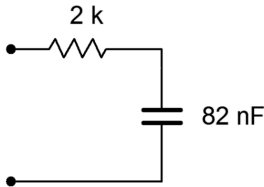

Figure 2.1
- 1. Determine the impedance of the circuit of Figure 2.1 for a 1 kHz sine.
- 2. Determine the impedance of the circuit of Figure 2.1 for a 5 kHz sine.